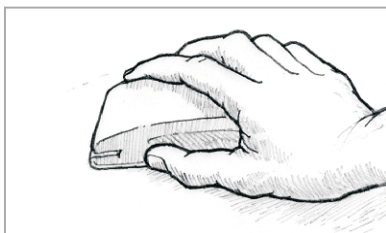

Figure 32 Sand to a smooth finish.
3. Sand to a smooth finish (*Figure 32*). If there are runs or sags, begin sanding with 80-grit paper to remove the highest areas. Sand until the surface feels and looks fair. Complete sanding with the appropriate grit for the type of coating to be applied—check coating